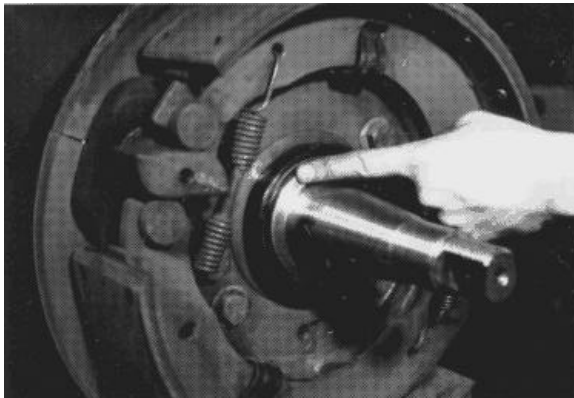

Figure 27 Seal I.D. is Flush With Shoulder
3. Check to make sure that the seal I.D. is installed flush with the face of the shoulder within .005 inch (.127 mm) (Figure 27).